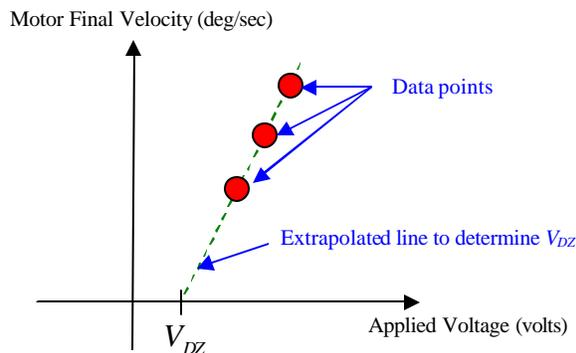

Figure 2. Data points and extrapolated line used to estimate V_{DZ}
A voltage that is applied to the motor will not result in motor rotation if the voltage is not of sufficient magnitude to overcome the plant's friction. The Dead Zone in the Simulink model accounts for the friction that exists in the real plant. In this part of the procedure, the student will seek an estimate of this dead zone voltage, V_{DZ} . To determine V_{DZ} , a voltage sufficient to cause rotation will be applied to the motor and its final velocity will be noted. The voltage will be reduced incrementally, noting the final velocity at each step. Continue reducing the applied voltage and recording the motor velocity until the point that the applied voltage does not cause the motor to rotate. Make a plot of these data similar to Figure 2. Extrapolate the data by a straight line through to the horizontal axis and note this voltage value. This will be V_{DZ} that is to be used in the Simulink model, which will be constructed in Lab 3.
2.2.3 Make a plot of your data similar to the one shown in Figure 2. Extrapolate a line from the data points to estimate the value of V_{DZ} .